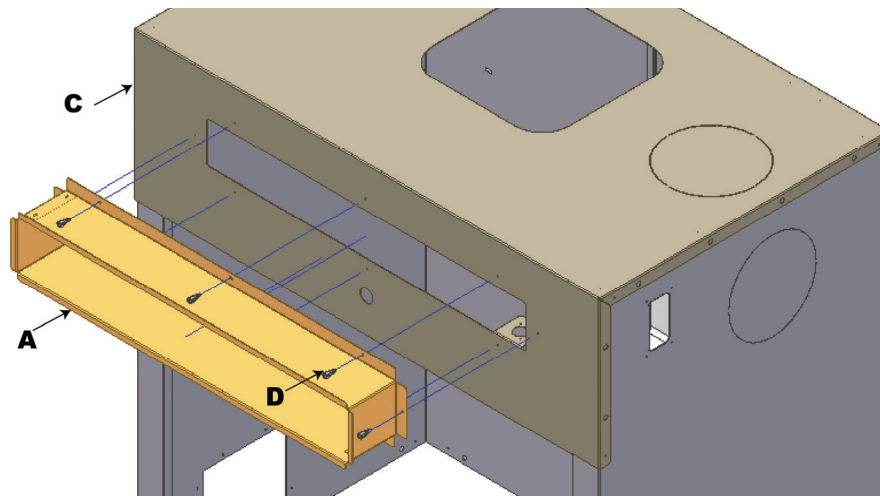
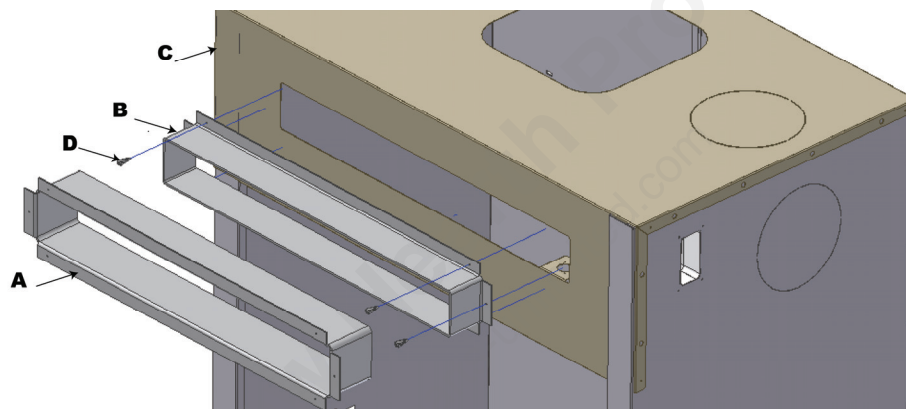
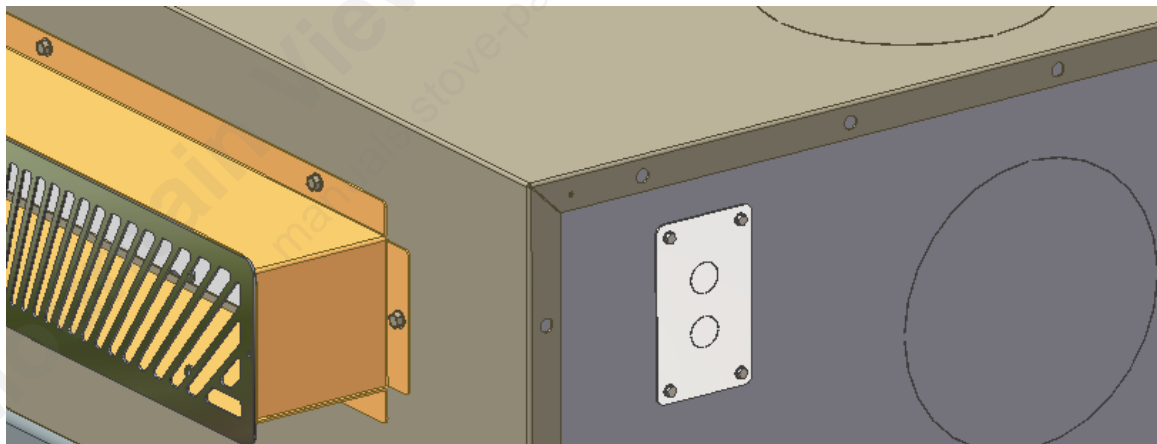
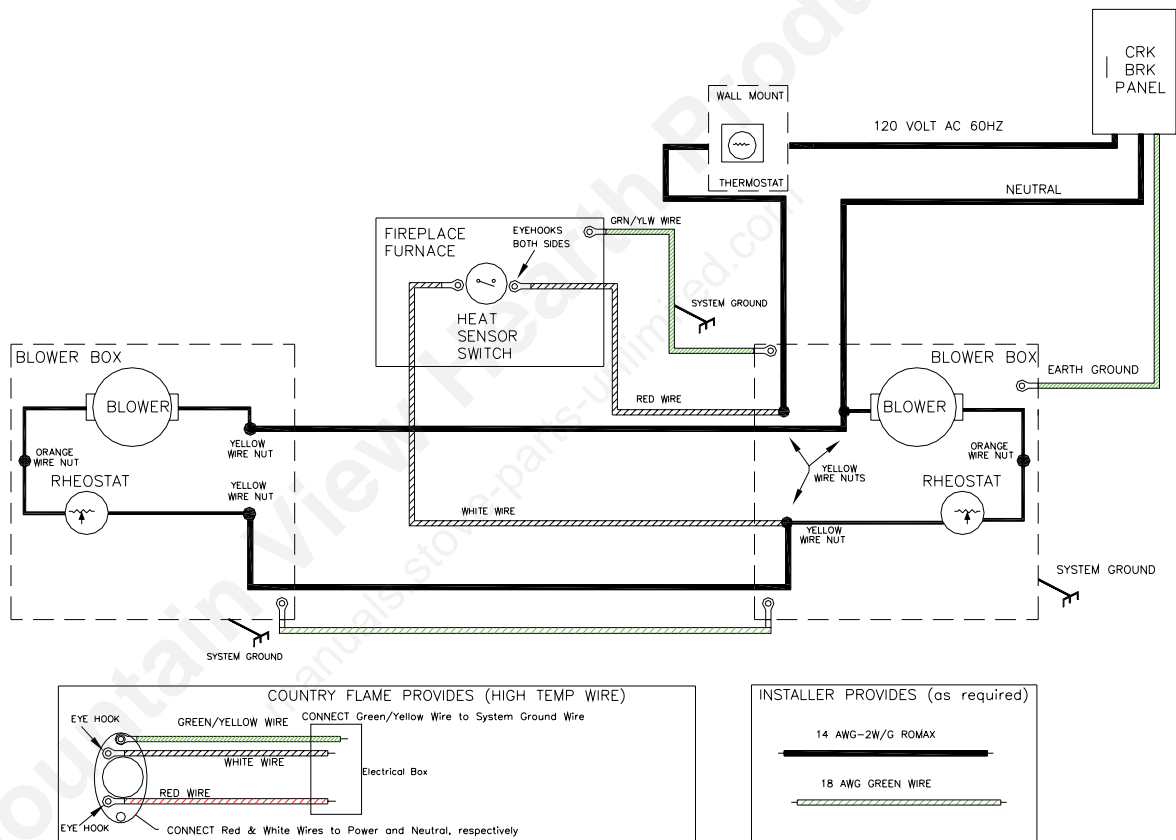

FIGURE 9A: HEAT DISCHARGE BOOT
FIGURE 9B: ADJUSTABLE HEAT DISCHARGE BOOT (OPTIONAL)
FIGURE 13: ELECTRICAL JUNCTION BOX
FIGURE 14: ELECTRICAL SYSTEM
4. FIGURE 9A demonstrates the installation of the top front warm air discharge boot to the front of the Smart Fireplace. FIGURE 9B demonstrates the procedure for installation of the adjustable warm air discharge boot (optional.) This optional item allows the mason to adjust for any variation in non-standard brick or stone that is being used on to face the fireplace.
5. The temperature snap disc was mounted and pre-wired at the factory. Refer to FIGURE 14 and ensure a qualified electrician properly wires and grounds the Smart Fireplace to the electrical box, shown in FIGURE 13. **NOTE:** It is important to remember that no access to wiring and grounding of the fireplace is possible once the brick mason has completed all brick work. Ensure that wiring is proper and functioning before allowing brick work to be completed.
FIGURE 9A shows the proper assembly of the standard heat discharge boot. FIGURE 9B shows the optional adjustable heat discharge boot that is required in the event anything but 4" wide brick is used to complete the masonry work. The optional slide in FIGURE 9, Item B, allows for a lintel adjustment from 4 inches to 7 inches. By ordering the adjustable heat discharge boot the brick mason can adjust for variations in custom masonry finishes that might be used on a particular fireplace. Refer to **STEP 7 - COMPLETION OF MASONRY FRONT** for step-by-step procedures for installing the parts shown in FIGURE 9.
- (A) Outer Frame, Heat Discharge Boot (FIGURE 9A standard, FIGURE 9B optional)
- (B) Inner Frame, Adjustable Heat Discharge Boot (FIGURE 9B optional)
- (C) Fireplace Furnace
- (D) Four tek screws
6. The fireplace heat grille and heat discharge boot come preinstalled from the factory and can be used with any masonry brick up to 4” in thickness. If thicker masonry material is used, refer to FIGURE 9B for a pictorial view of the assembly process of the optional adjustable heat discharge boot. These optional parts are listed in the back of this manual. Order them from your dealer.
- A. Mount “inner unit” (Part B, optional) to front of fireplace Part C using four (4) screws, Part D.
- D. The air discharge snap disc comes pre-installed and wired from the factory. Ensure that it is wired to the home circuit by a certified electrician AND properly tested before final face masonry is completed. A complete electrical circuit diagram is shown in FIGURE 14.
FIGURE 13 shows the location of the electrical junction box cover. A certified electrician should remove the cover of this junction box to connect the Smart Fireplace Furnace's blower system to the household electrical grid and the supplied thermostat with proper temperature rated romex wire. **WARNING:** Failure to properly wire in the blower system can lead to shock hazard, a malfunctioning blower system, or could create a fire hazard. Contact a certified electrician to ensure proper installation of the Smart Fireplace Furnace blower system. **NOTE:** All wiring should be completed before masonry work is complete.
FIGURE 14 shows the proper components and wiring procedure for connecting the blower system. Follow all local electrical and safety codes as well as the National Electrical Code when installing electrical wiring.
clear of sharp objects. Further, ensure that the power cables or motor leads are not kinked. Never allow the power cables or motor leads to come in contact with oil, grease, hot surfaces, or chemicals. Utilize the two high temperature wires (red and white) provided by Country Flame to connect the air discharge snap disc to the electrical system as shown in FIGURE 14. Use the high temperature wire (green/yellow) to ground the fireplace to the right blower box. The green/yellow wire installed by Country Flame at the factory should be connected to one of the screws used to hold the air discharge snap disc to the fireplace. Connect the other end of the green/yellow wire to the right blower box or another earth ground coming from the circuit breaker box. The installing electrician should ensure proper grounding is accomplished for both blower boxes and the fireplace unit as per FIGURE 14. Screws and wire nuts are provided by Country Flame to ensure all parts are available during installation.